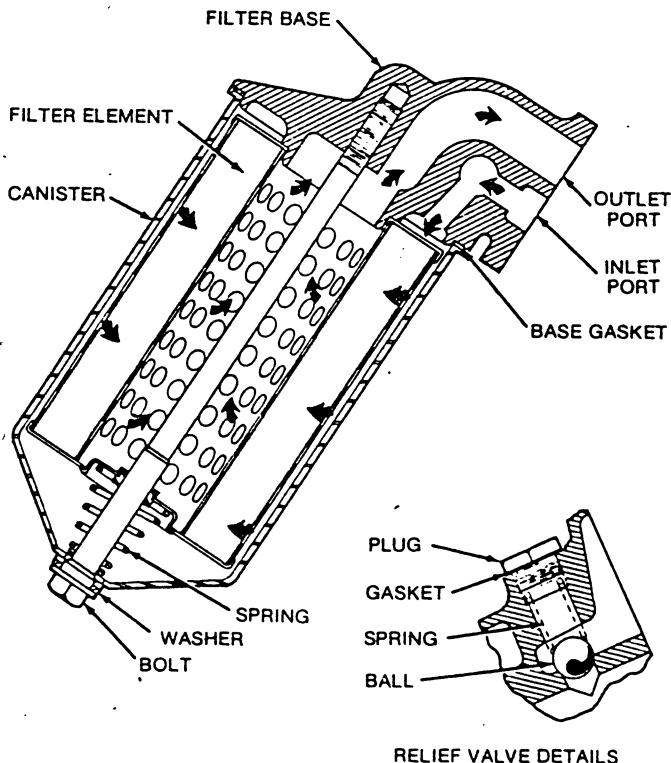

FIGURE 18. OIL FILTER ASSEMBLY
1. Remove canister retaining bolt and washer; then remove canister and filter element. See Figure 18.